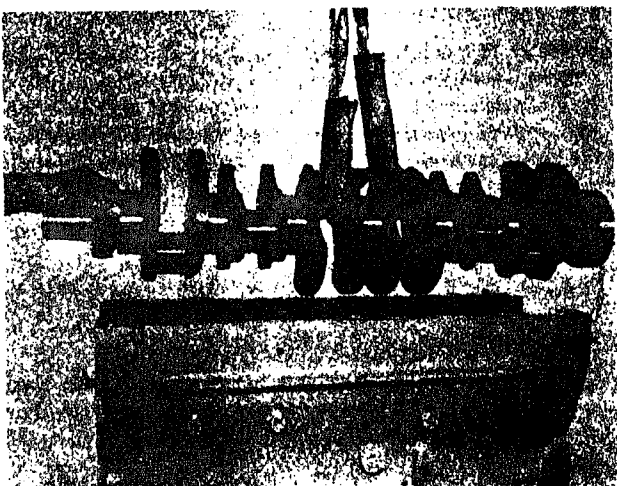

Fig. 14-1-2. Installing crankshaft
7. Lift crankshaft over cylinder block, using a rope sling and hooks protected with rubber hose; lower crankshaft carefully into place, Fig. 14-1-2.